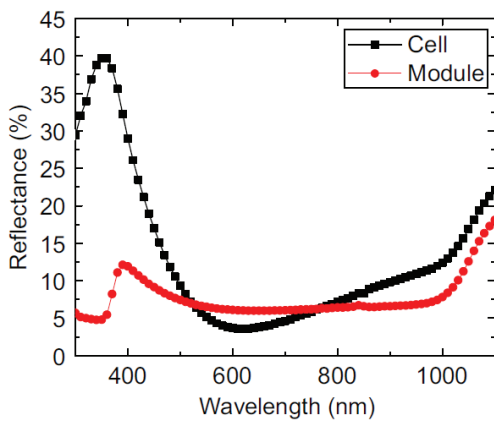
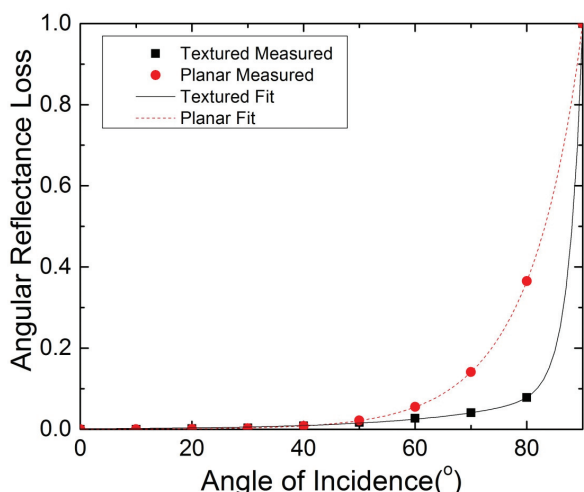

Figure 2. Wavelength-dependent reflectance of a typical solar cell (black squares) and module (red circles) [1].
Figure 4. Angular reflectance loss of a solar panel [2].
Fig. 2 shows the wavelength-dependent reflectance of a solar cell with an AR coating as well as the reflectance of a solar module, i.e. after packaging the cell into a durable panel with a glass surface. Although the refractive index of the AR coating is designed to minimise the reflectance of light in the wavelength range 400–700nm, it can be seen that the reflectance at wavelengths of less than 500nm increases (with a peak below 400nm), i.e. in the blue, violet and ultraviolet (UV) ranges; this explains why typical
As with any reflecting building element, there are, however, possible situations and scenarios in which glare from a solar panel can potentially occur. The reflectance measurements for the solar cell and solar module as shown in Fig. 2 are taken at a normal (0°) incidence, i.e. the incoming light is perpendicular to the solar cell and the solar module. Fig. 4 shows the angular reflectance losses, relative to normal incidence, of typical solar modules with a textured glass and a planar glass (for a solar module, such reflectance reduces the absorption and the yield and is hence considered a 'loss'). It can be seen that the angular reflectance loss starts increasing dramatically when the angle of incidence goes beyond ~70°.